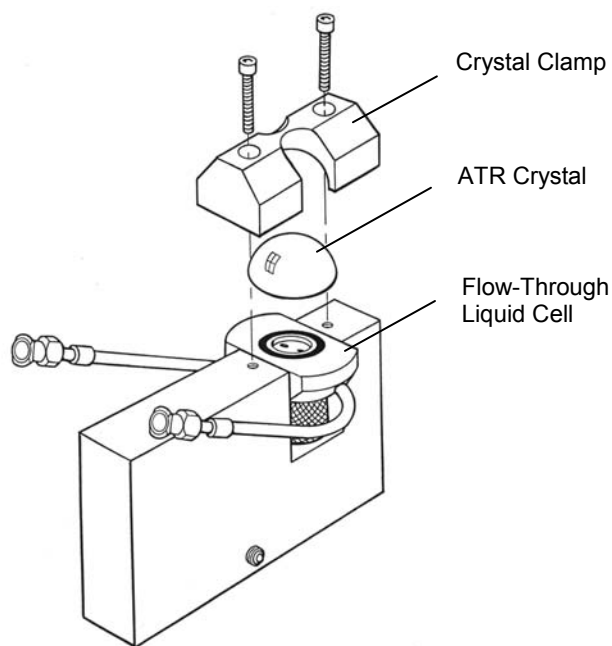

Figure 15 • The Flow-Through Liquid Cell
- Locate the flow-through liquid cell on the height adjustment knob of the ATR sample holder (Figure 15).